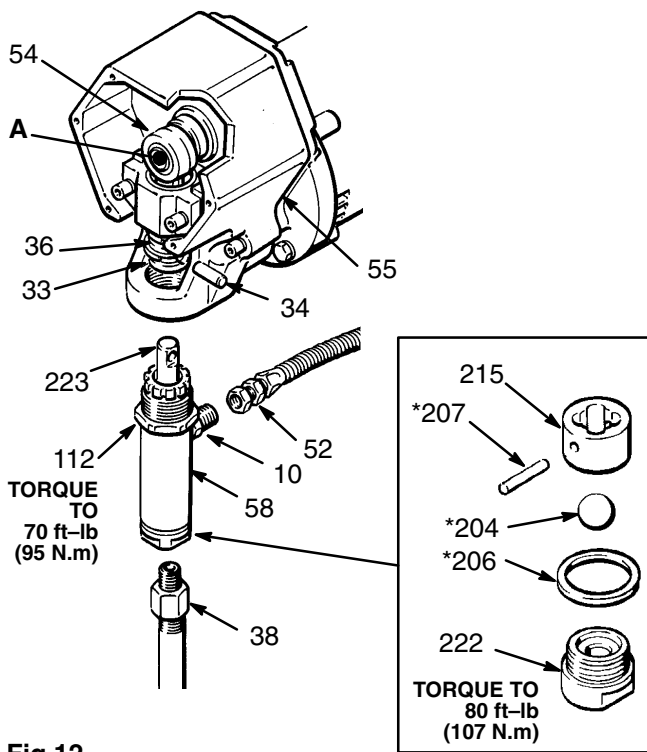

Fig 12
Removing the Pump. See Fig 12.
Reinstalling the Pump. See Fig 12.
Be sure the retaining spring (33) is firmly and completely in the groove of the connecting rod to prevent the pin (34) from working loose due to vibration. See Fig 12.
1. Remove and disassemble the intake valve (222). If no further service is needed, reassemble the valve, using a new gasket (206). Torque to 80 ft-lb (107 N.m). See Fig 12.
2. Remove the packing nut (221) and plug (201).
3. Tap the piston rod (223) down with a plastic mallet. Pull the rod out the bottom of the cylinder (216).
4. Remove the packings and glands from the throat of the cylinder (216).
5. Clamp the flats of the piston rod (223) in a vise. Unscrew the retaining nut (214). Unscrew the piston valve (224) from the rod. Remove all parts from the piston.
1. Disconnect the hose (52) at the displacement pump. See Fig 12.